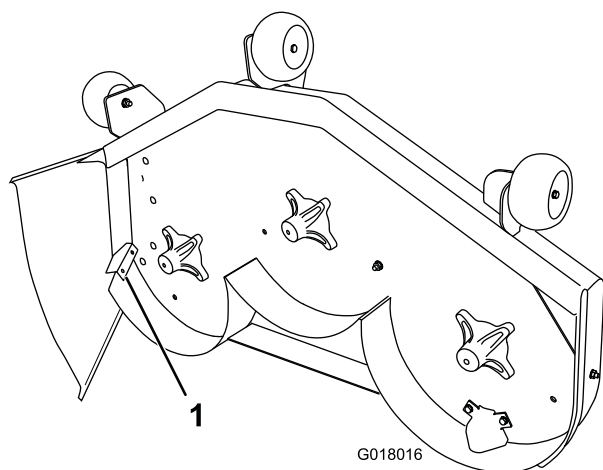

Figure 29
9. Install the cutoff baffle (supplied with the mower) at the side-discharge opening on the mower deck (Figure 29).